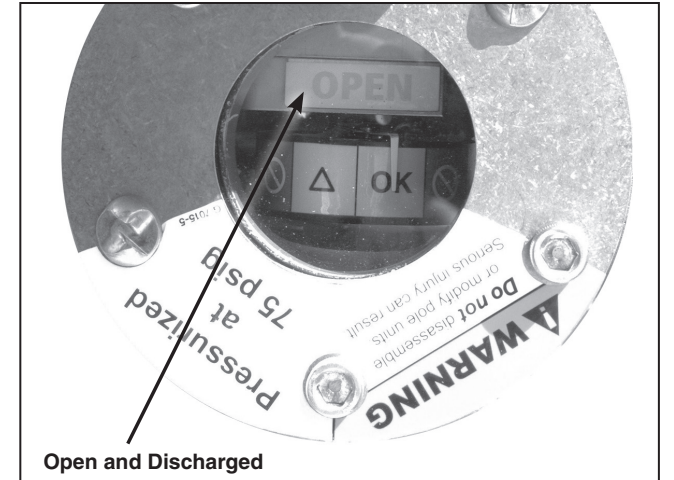

Figure 11. Check that all three pole-units are open and discharged.
- STEP 3.** Check that all three pole-units are open and discharged. See Figure 11.